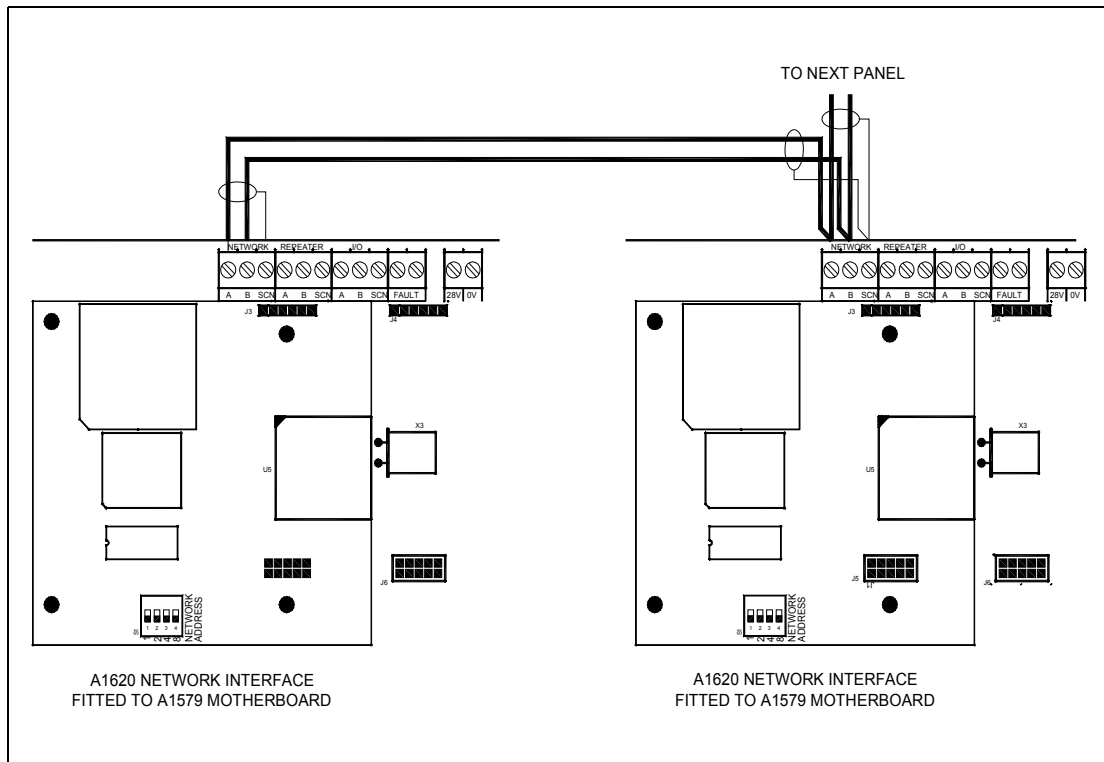

Figure 4 – Network connection diagram
3. Connect the network RS485 wiring as shown in Figure 4. A maximum of 15 active panels can be connected together in this way. Any number of panels can be added as passive panels provided the total number of panels on the network does not exceed 32.